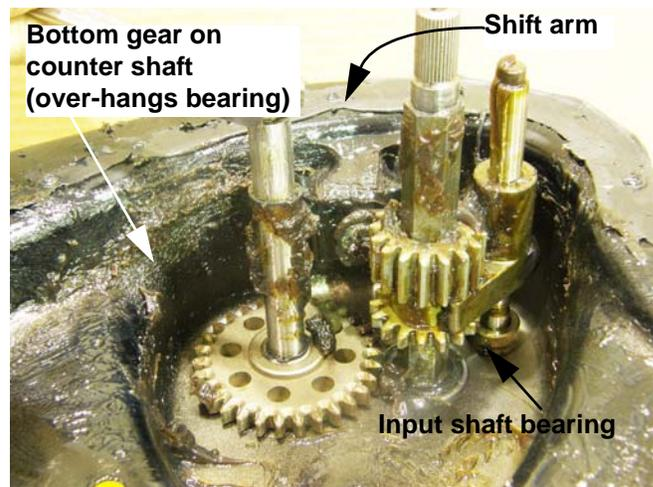

Figure 5.53
1. Remove the input spur gear and detent shaft assembly as described in the Detent Shaft section of this chapter. See Figure 5.53.